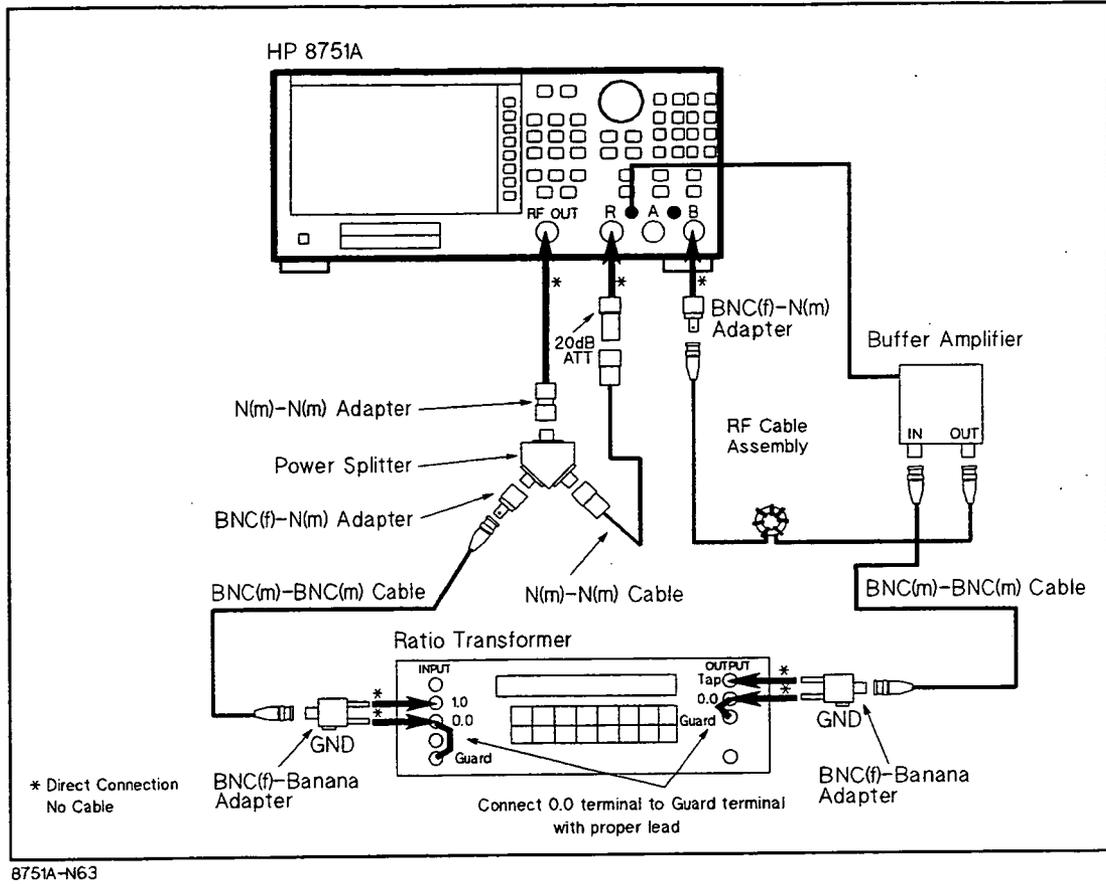

Figure 1-3. Magnitude Ratio/Phase Dynamic Accuracy Test Setup 1
- a. Connect the test equipment as shown in Figure 1-3.